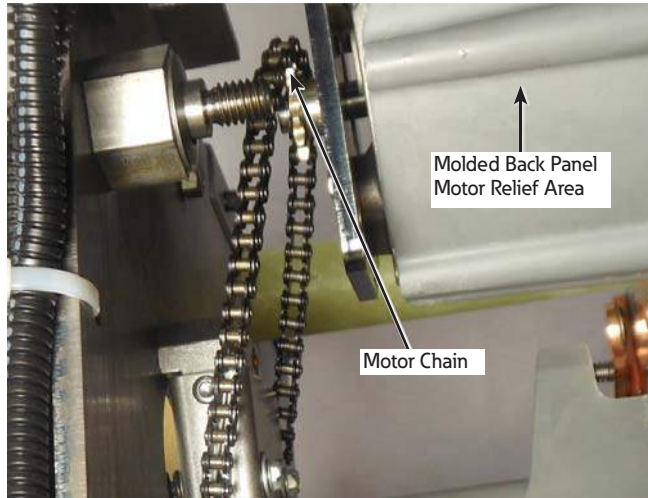

Figure 12. Locating motor
12. Place the motor into the motor relief area of the molded back panel. Pull the chain under the drive sprocket gear insuring that the chain fully engages the sprocket teeth. Pull the chain up and onto the motor sprocket teeth. If there are any loose links around the bottom of the drive sprocket gear, the motor will not fit properly. Refer to Figure 12.